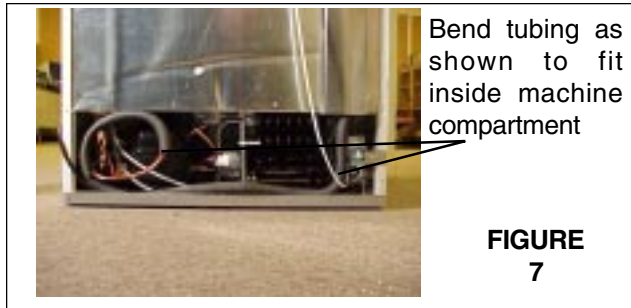

FIGURE 7
17. Bend remaining tubing to fit into machine compartment opening; avoid tube contacts that may cause excess noise from line vibration. (See Figure 7.)